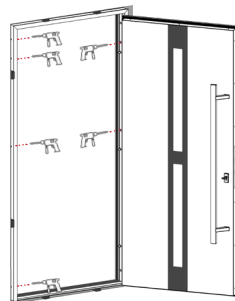

Figure 17.
3.13. Drill holes in the wall through the remaining holes (on the left/right) (figure 17).